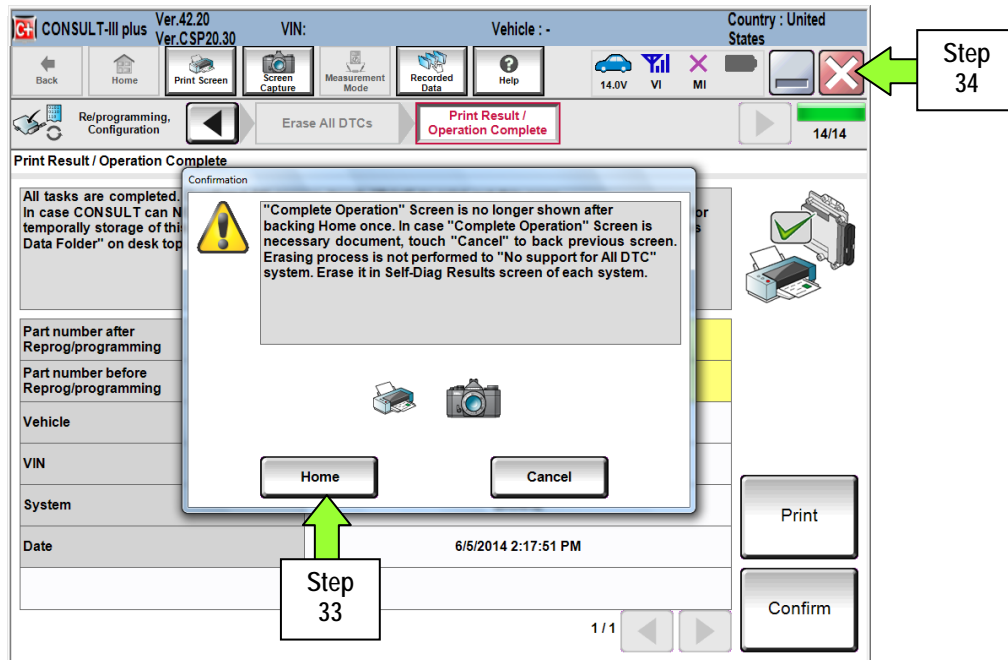

Figure 22
34. Close C-III plus by selecting "X" (see Figure 22).